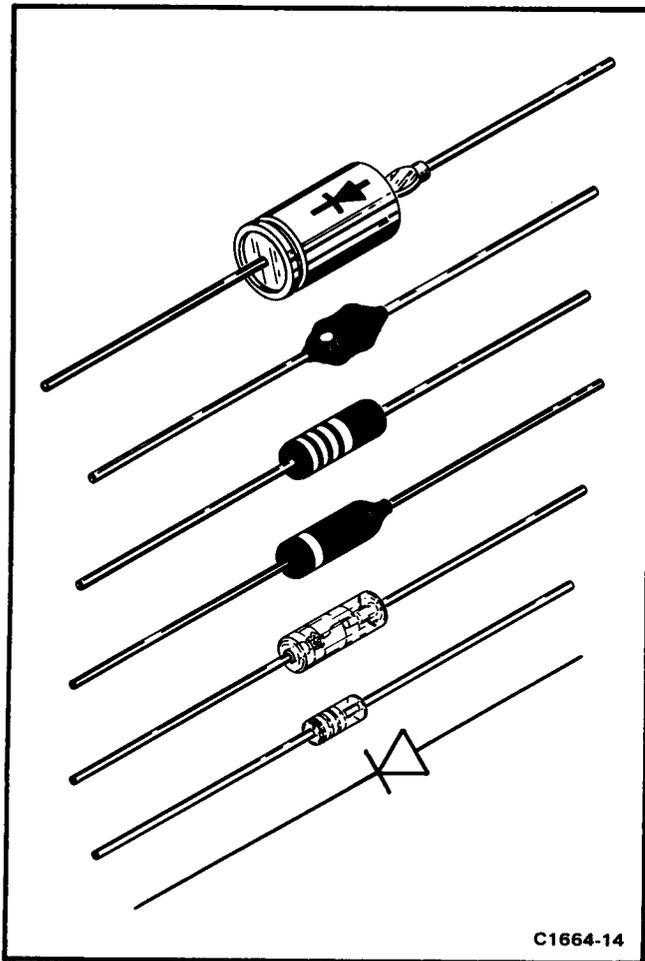

Fig. 4-3. Diode polarity markings.
Diode Color Code. The cathode of each glass encased diode is indicated by a stripe, a series of stripes, or a dot. Some diodes have a diode symbol printed on one side. Figure 4-3 illustrates diode types and polarity markings that are used in this instrument.
4. Use only good components for substitution and be sure the new component is inserted into the socket properly before soldering. Refer to the manufacturer's data sheet or Fig. 4-3 for lead configuration.